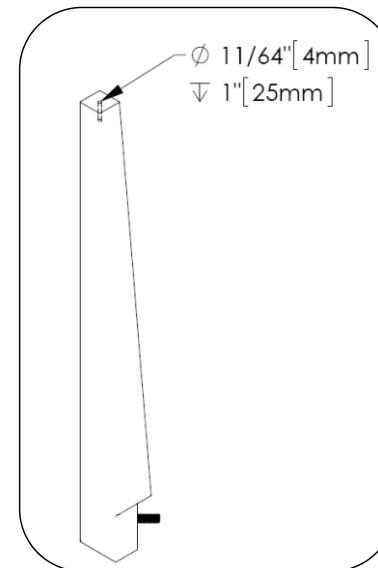

Fig. 3 – Drill hole - optional
2. Drill  $\varnothing 11/64$ " pilot holes to 1" depth as shown in Fig. 3.